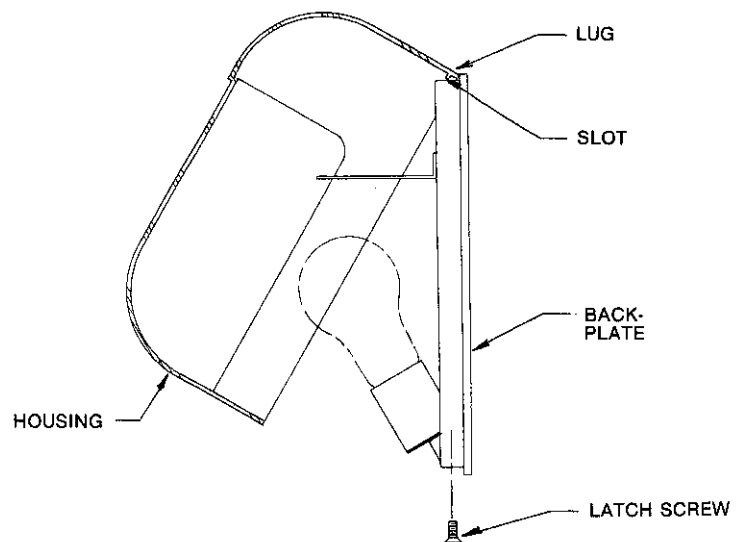

FIG. 2
1. Disassemble fixture by removing LATCH SCREW visible at bottom. HOUSING "hinges" up for removal. See Fig. 2.
5. Mount diffuser HOUSING to FIXTURE BODY by tilting HOUSING to engage LUG into SLOT of FIXTURE BODY. Swing HOUSING into position, seating against GASKET. See Fig. 2.
6. Press HOUSING into alignment against GASKET and secure with LATCH SCREW. See Fig. 2.